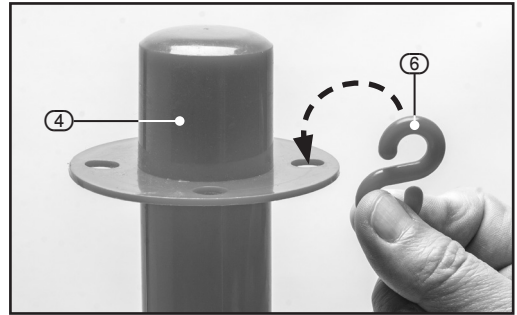

FIG. 4
4.4 FITTING THE 'S' HOOKS TO THE BARRIER CHAIN CONNECTORS – FIG. 4.